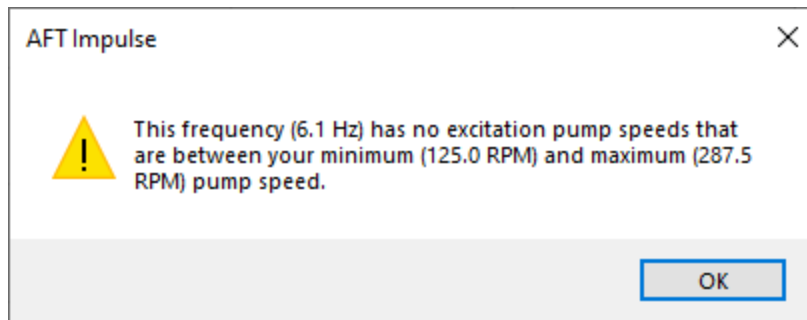

Figure 15: Message Indicating No Excitation Pump Speeds Between the Minimum and Maximum Pump Speeds Exist
- f. When choosing low or high frequencies on the graph, it is possible to select a frequency which is excited in the system but does not have a pump speed within the minimum and maximum pump speeds for the analysis. The minimum pump speed is defined directly in the PD Pump Settings in the Pulsation Setup window, while the maximum is calculated using the Pump Speed and Speed Buffer defined under Pulsation Source in Pulsation Setup. For example, try selecting the largest maxima, which occurs at 6.1 Hz. The message in Figure 15 appears.